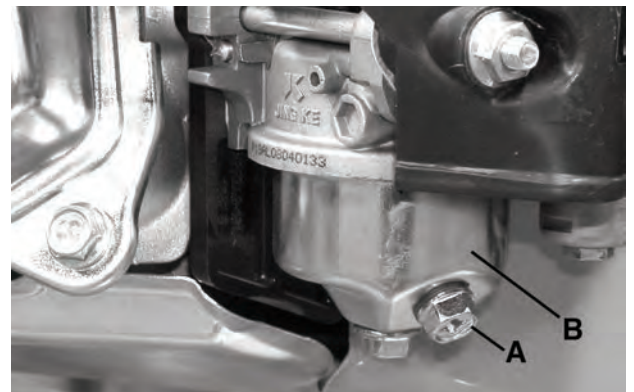

Figure 28
- 5) Remove drain hex. bolt (A) Fig.28 from the carburetor (B) and drain the fuel from the carburetor and hose.